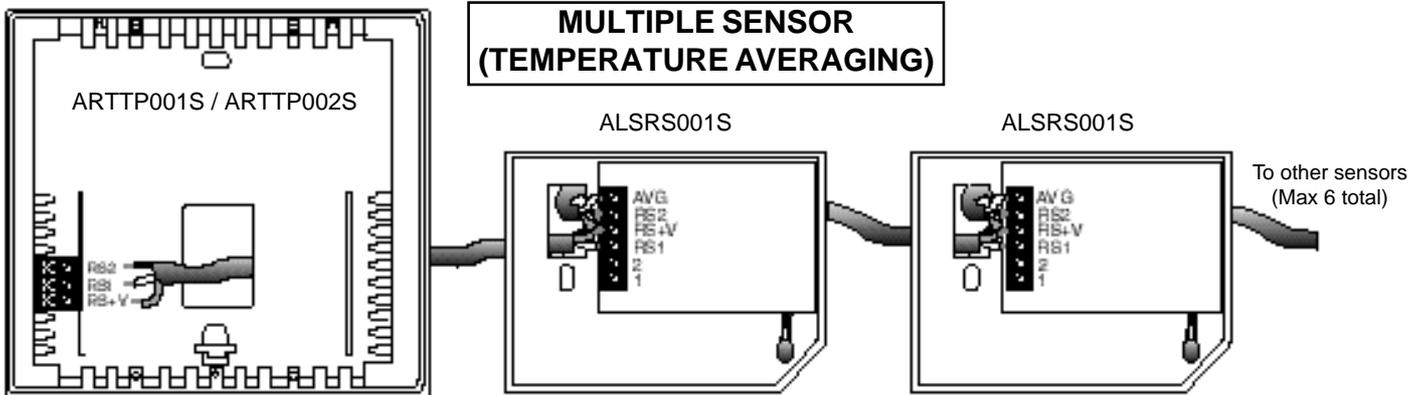

FIGURE 2
- 3** - Connect wires to each additional sensor in the following manner. An outdoor sensor can also be connected in an location in the chain. (Refer to Figure 2 also.)